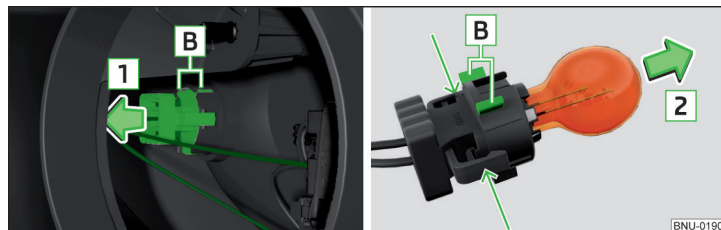

Fig. 349 Changing the bulb for the front turn signal light
- Remove the holder with the bulb by jiggling it out in the direction of the arrow **1** » Fig. 349.